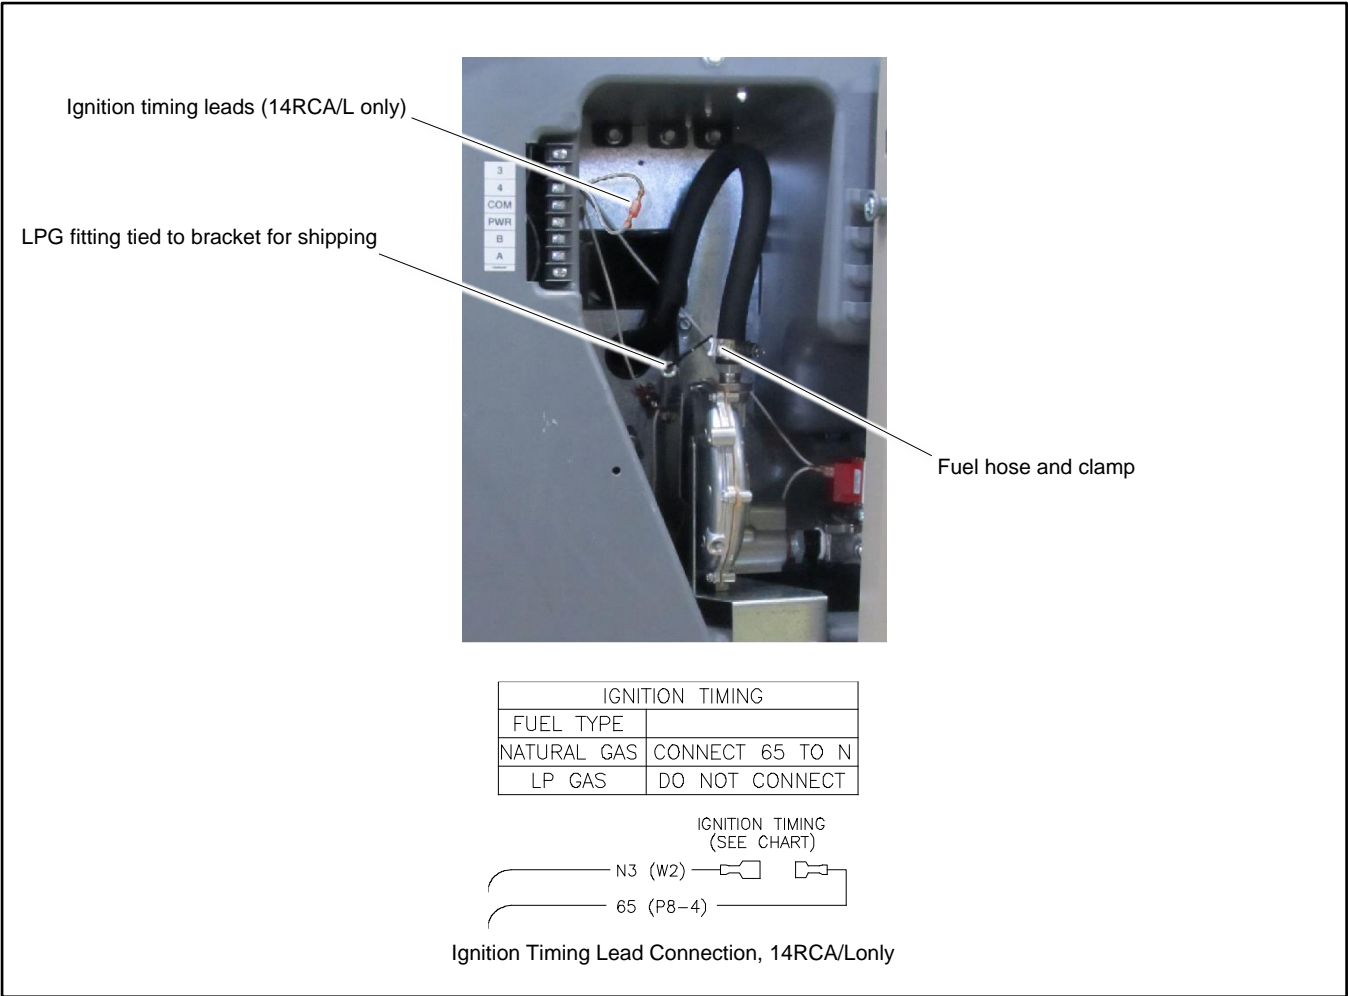

Figure 94 Fuel System, As Shipped
The unit is typically shipped set up for natural gas, with the LPG fitting tied near the fuel solenoid valve. To convert to LPG, remove the NG fitting and install the LPG fitting as described below. See Figure 94 for the fuel system component locations.
5. Remove the fuel hose from the hose fitting on the top of the regulator. See Figure 94.
9. Disconnect ignition timing leads 65 and N3 for LPG. The ignition timing leads are located near the top of the compartment. See Figure 94.